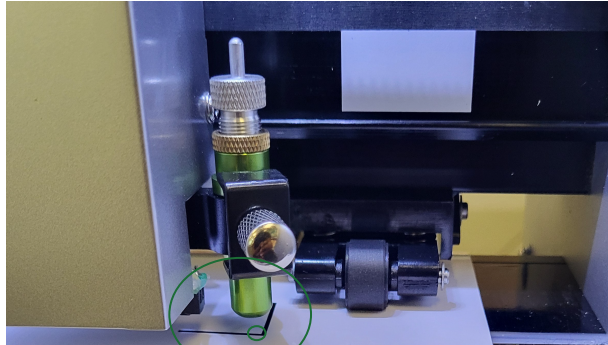

Fig. 3.2.6 Position the blade over the lower right corner of the lower right registration mark.
9. Load the printout into the Muse Servo in the same orientation as printed and set the blade tip over the lower right registration mark as was shown in FIG. 3.2.6 and 3.2.7 in Section 3.2.3.